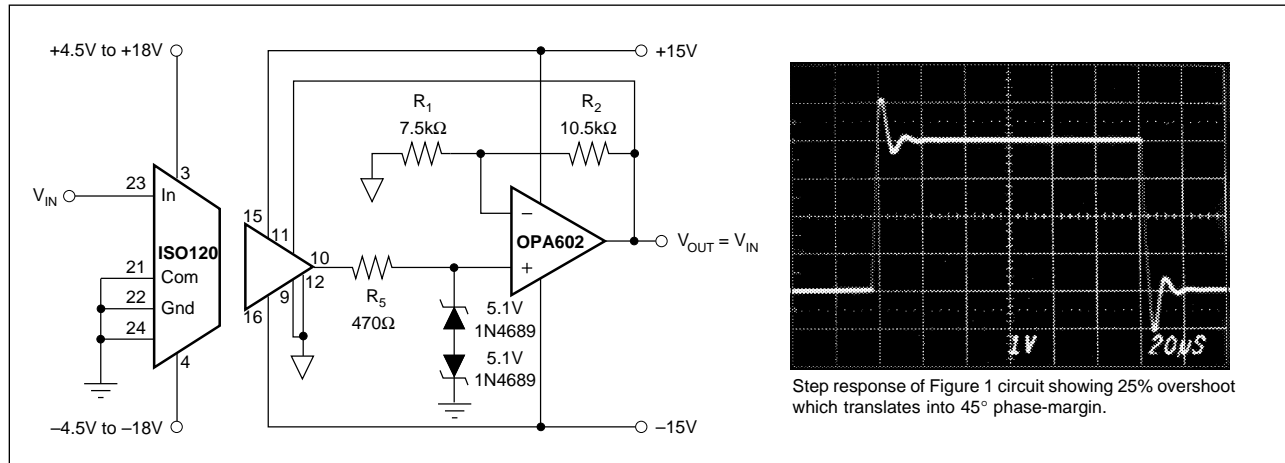
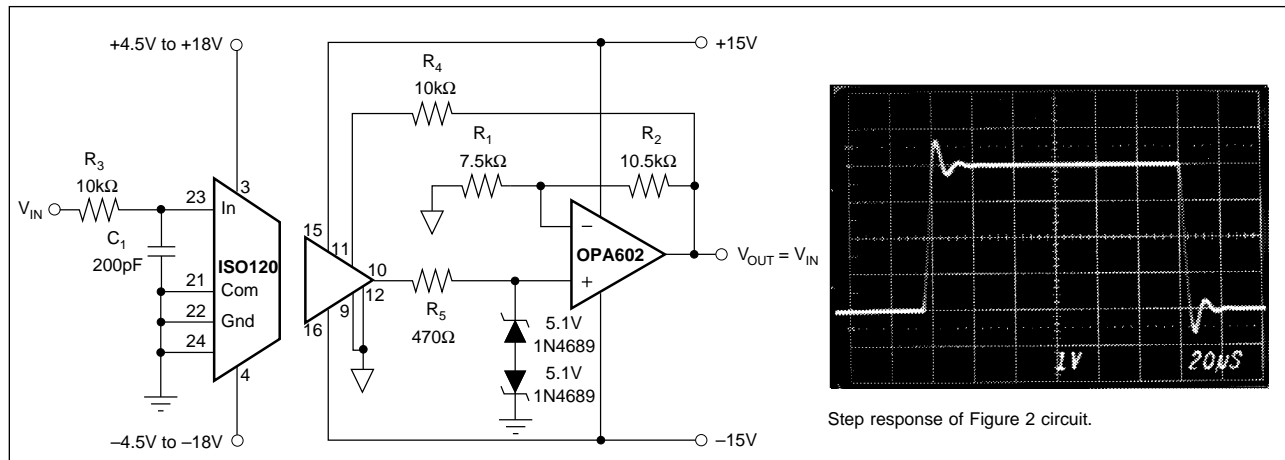

FIGURE 1. ISO120 with f_{-3dB} Bandwidth Boosted to Approximately 150kHz.
FIGURE 2. ISO120 with Flat Magnitude Response and f_{-3dB} Bandwidth Boosted to More Than 100kHz.
Adding gain in the feedback of the ISO120/121 increases bandwidth and decreases phase margin—see Figure 4. The ISO120 was designed with approximately 70° phase margin in the output stage for maximally flat magnitude response and a f_{-3dB} bandwidth of approximately 50kHz. With a gain of 2.4V/V in the feedback as shown in Figure 1, phase margin is decreased to an acceptable 45°. Due to gain peaking, the actual f_{-3dB} bandwidth is increased to almost 150kHz. With the addition of an input filter as shown in Figure 2, flat magnitude response with a bandwidth of
To verify the phase margin, analyze the step response of the Figure 1 circuit (shown in the Scope Photo 1). The 25% overshoot translates to a damping factor of 0.4 and 45° phase margin.
The addition of an input filter to compensate for the gain peaking, as shown in Figure 2, gives a flat magnitude response of more than 100kHz. In addition to the gain of
2.4V/V amplifier in the feedback, a simple 80kHz input filter formed by C_1 and R_3 is inserted at the input. The 10k Ω input resistor, R_3 , decreases the ISO120 gain by about 5%. A matching 10k Ω resistor in the feedback, R_4 , restores gain accuracy. The step response for the Figure 2 circuit is shown in the scope photo.
The Gain vs Frequency Plot, Figure 3, compares the response of the Figure 1 and Figure 2 circuits, to the standard ISO120. The top plot is the Figure 1 circuit showing about +3dB magnitude peaking and almost 150kHz f_{-3dB} bandwidth. The center plot is the Figure 2 circuit with the 80kHz input filter. The magnitude response is flat with an f_{-3dB} bandwidth greater than 100kHz. The bottom plot shows the standard ISO120 circuit with an f_{-3dB} bandwidth of about 50kHz.